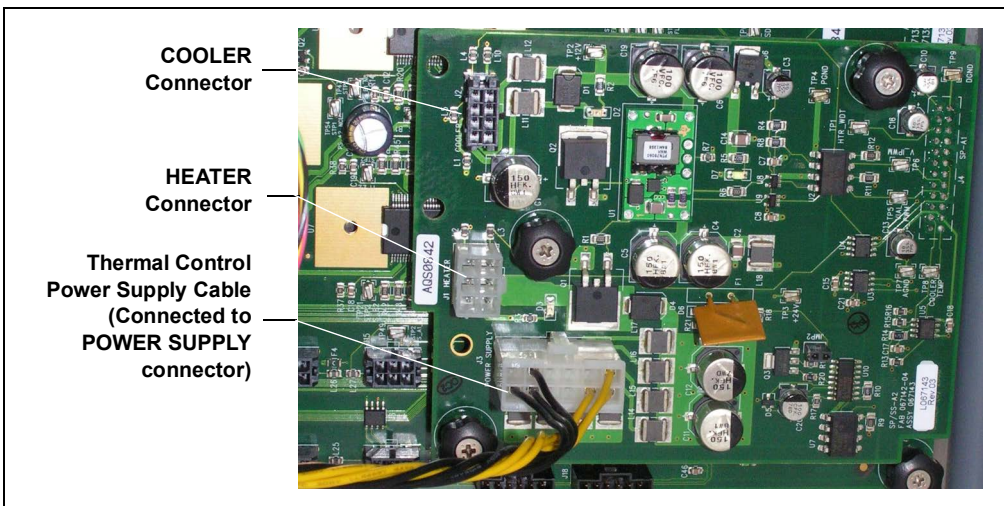

Figure F-3. Main SP Electronics Board: Thermal Control Power Supply Cable Installed
8. Locate the connector labeled **POWER SUPPLY** on the thermal control board (see Figure F-3).
4. Locate the connector labeled **COOLER** on the thermal control board (see Figure F-3).
1. Plug the heated dilution vessel extension cable into the connector labeled **HEATER** on the thermal control board (see Figure F-3).